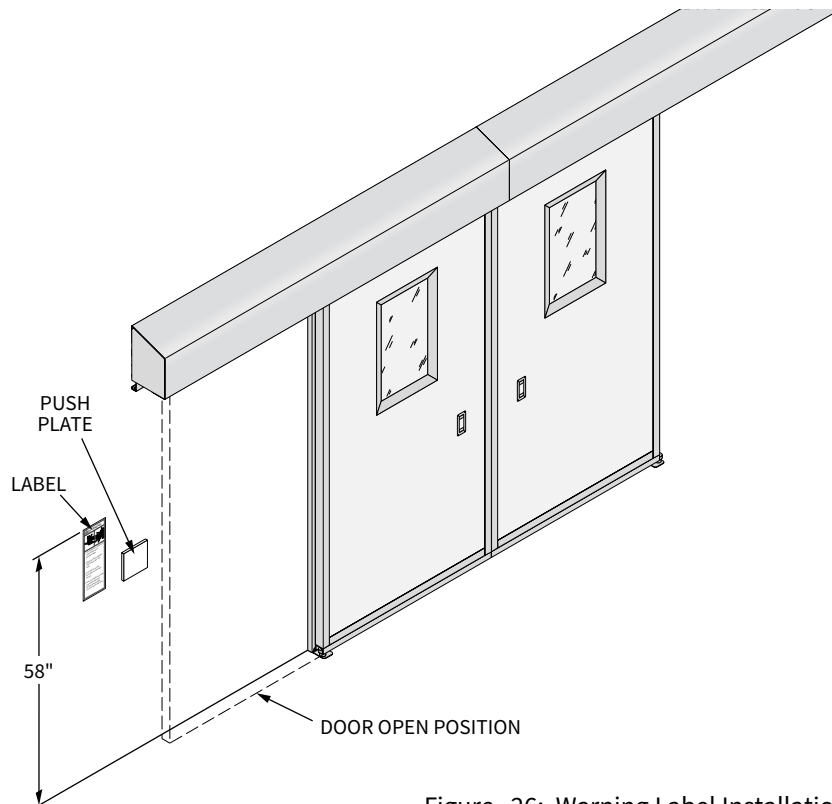

Figure 26: Warning Label Installation
1. Install warning label (Figure 25) to wall as shown in Figure 26.